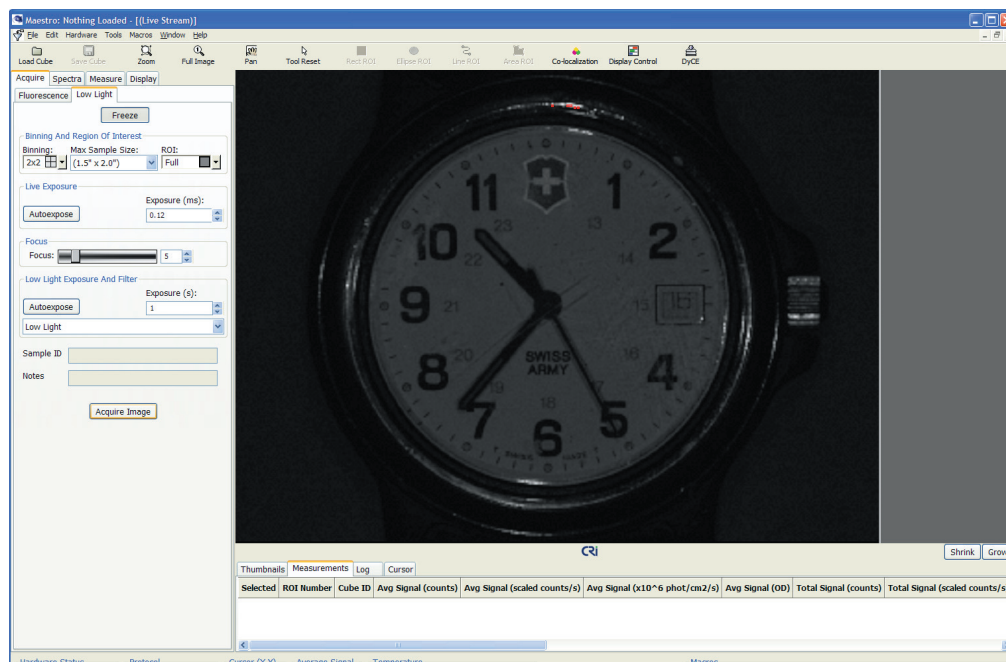

Figure 36. Low Light Live Image
5. Set the **Binning**, **Max Sample Size** (zoom), and **ROI** for this acquisition. In Figure 36, the image is zoomed to a max sample size of 1.5"x2.0".